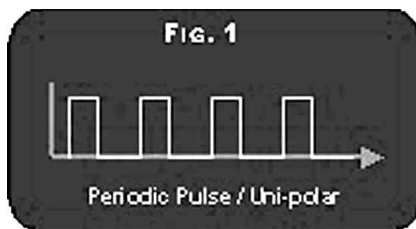

Fig. 1—Periodic pulse or uni-polar pulse.
1. Periodic Pulse or Uni-polar pulses (Fig. 1)